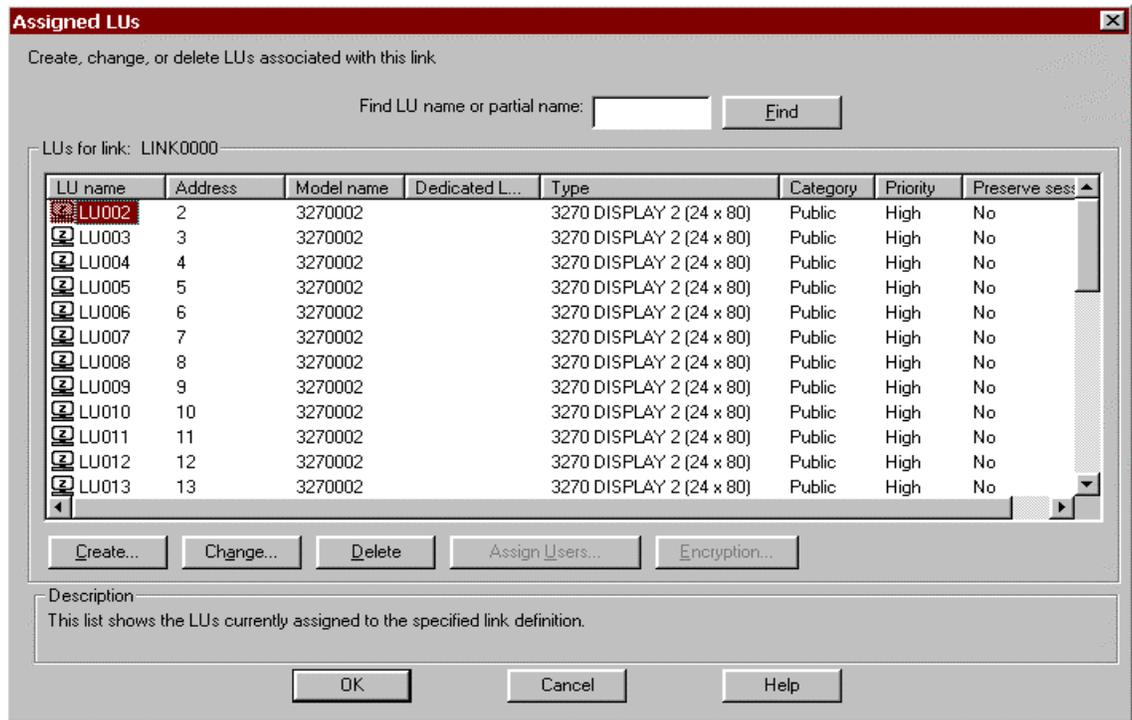

Figure 10-21. Assigned LUs
10. Click **OK** to create the LUs. The *Assigned LUs* screen will display (Figure 10-21).